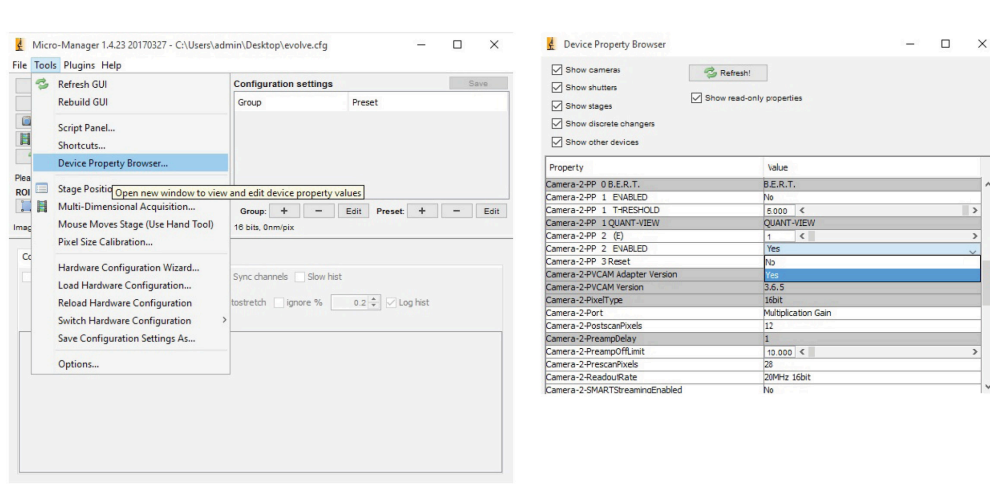

Figure 8
2. Scroll down to QuantView and change it from off to on (Figure 8).